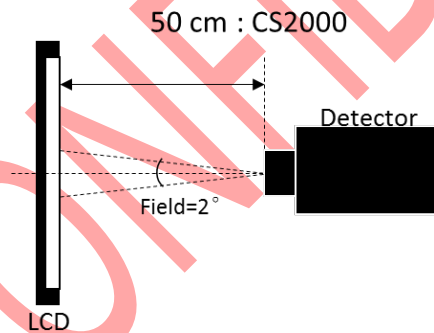

Fig.4.1 Measurement equipment.
- (1) Each chromaticity coordinates (x, y) are measured in CIE1931 color space when full-screen displaying (Red, Green, Blue, White) and light source is defined by HKC Backlight, measurements shall be made at the center of the panel, and setup of measurement is shown in Fig 4.1.
- (2) The color gamut is defined as the fraction in percent of the area of the triangle bounded by R, G, B coordinates and the area is defined by NTSC 1931 color standard in the CIE color space. Chromaticity coordinates are measured by CS2000 and the standard setup of measurement is shown in Fig 4.1.
- (3) Definition of Transmittance (T%):
(6) Definition of Viewing angle:
As Note (4) the static contrast ratio definition, the viewing angles are defined at the angle that the contrast ratio is larger than 10 at four directions relative to the perpendicular direction of the HKC's module (two vertical angles: up θ_y+ and down θ_y- ; and two horizontal angles: right θ_x+ and left θ_x-). The standard setup of measurement is shown in Fig 4.1 & 4.4